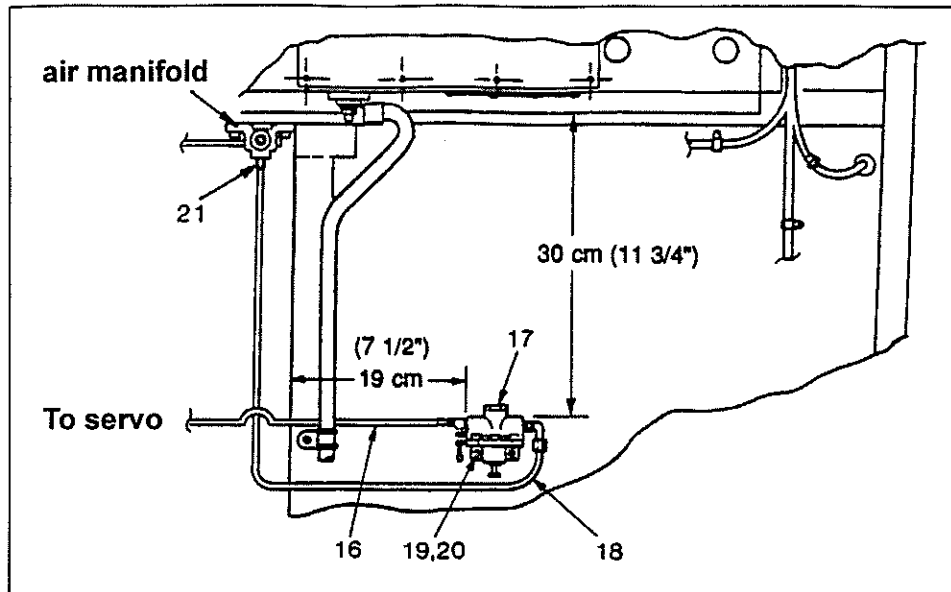

FIGURE 2: AIR PRESSURE REGULATOR INSTALLATION
Air Pressure Regulator installation. (Fig. 2)
3. Position regulator assembly (17) on R.H. wall as illustrated in figure 2 then using regulator bracket as a template, mark location of the two holes to be drilled.
4. Drill the two holes using a 3/16" (5 mm) bit. Mount regulator assembly using two #14 x 3/4" screws (19) and lock washers (20).
5. Remove compression nut and sleeve from the 90° elbow mounted on regulator, slide them on one extremity of new plastic tube (18) then connect it to the 90° elbow.
6. Route other extremity of tube up to the air manifold as illustrated in figure 2.
7. Remove and discard square head plug from air manifold, apply teflon pipe sealant on threads of 90° Elbow (21), then screw elbow.
9. Connect straight end of new teflon hose assembly (16) to regulator assembly (17) as illustrated in figure 2, then route the other extremity of hose assembly up to the clutch operating cylinder.